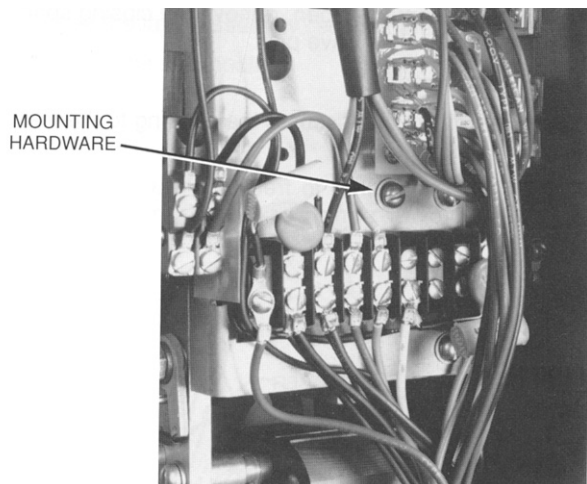

Figure 26.
5. Loosen the three screws that secure the switch mounting panel to actuator housing, see Figure 26, this provides clearance that is need to access two of the speed reducer mounting bolts.